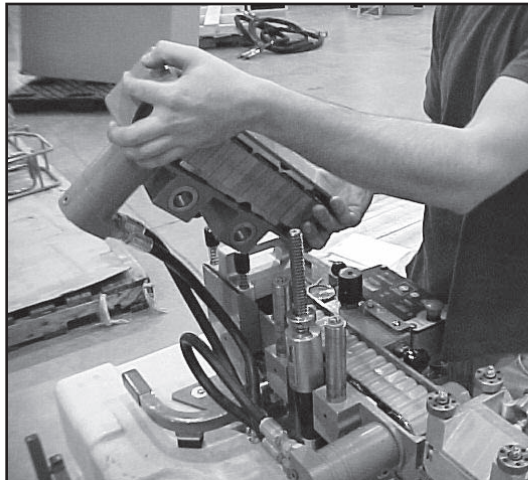

Figure 3
3. Remove top track assembly (Figure 3)